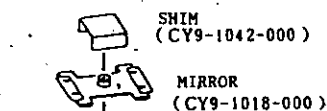

Fig. 8
1) Install the focal plane mirror and shim, and close the back cover. (Fig. 8)